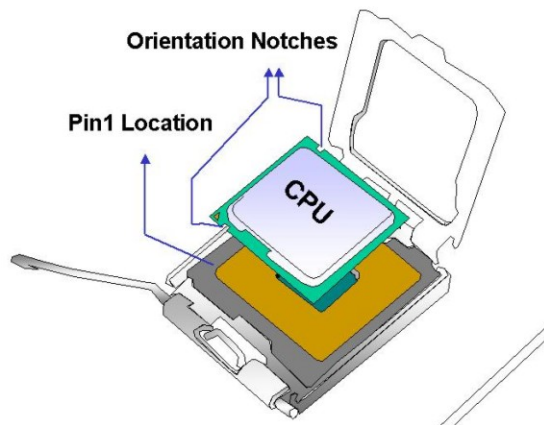

Figure 4-4: Insert the Socket LGA775 CPU
- Step 7:** Insert the CPU. Gently insert the CPU into the socket. If the CPU pins are properly aligned, the CPU should slide into the CPU socket smoothly. See Figure 4-4.